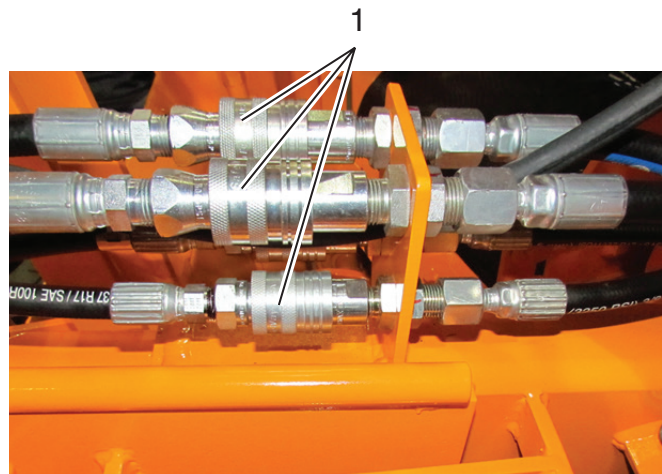

Figure 4-15. Shoulder Quick Connect
When a job may require a special power tool such as a chain saw or jack hammer, these tools can be attached to the hydraulic lines as shown in **Figure 4-15**. Just uncouple the two top lines and couple in your special tool. (Make sure the coupling device is kept clean as possible.)
2. Disconnect the four quick coupling hydraulic hoses on the screed and draw bar. See **Figure 4-15**.